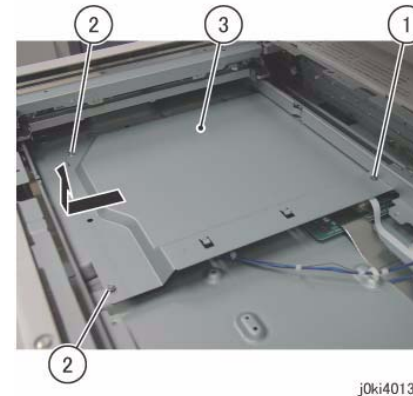

Figure 2 Remove the PWB Cover
9. Remove the PWB Cover. (Figure 2)